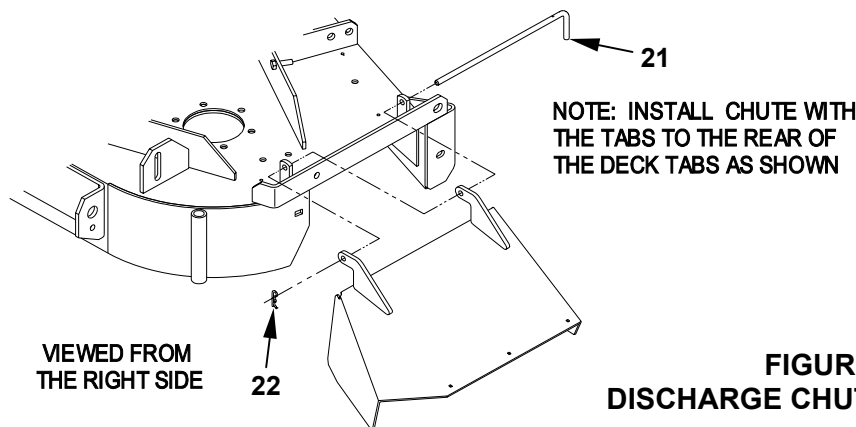

FIGURE 11
6. Install the discharge chute using the chute pivot pin and hairpin (see figure 11).